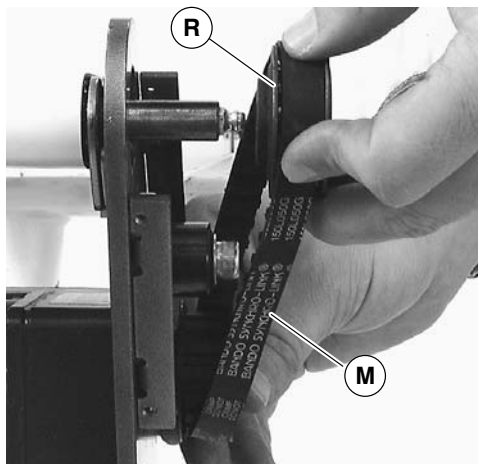

Figure 18
**NOTE:** If drive pulley (R of Figure 18) is replaced, wrap timing belt (M) around drive pulley and complete step 3.